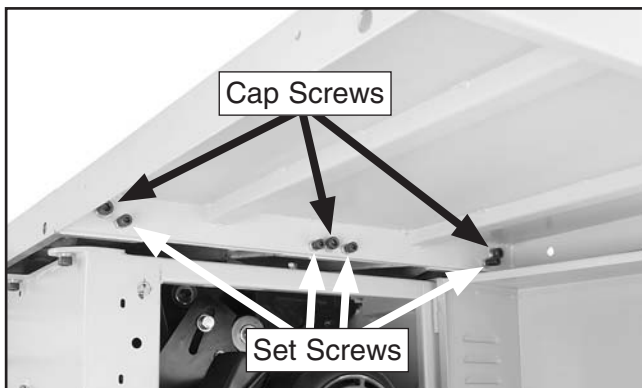

Figure 10. Extension table installed.
1. Attach the extension table to the main table with (3) M10-1.5 x 25 cap screws, 10mm flat washers, and 10mm lock washers (see **Figure 10**). Do not fully tighten the cap screws at this time, because the extension table still needs to be leveled with the main table.
2. Thread (1) M8-1.25 hex nut halfway onto each of the (4) M8-1.25 x 25 set screws, then thread the set screws a couple of turns into the locations shown in **Figure 10**. These screws will help you level the table in the next step.